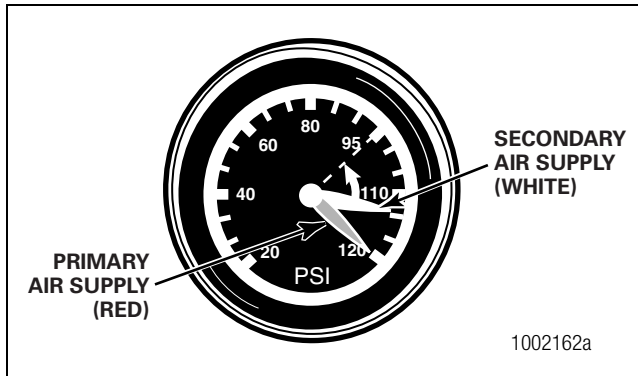

Figure 2.4
3. Check the secondary tank air gauge. It should read 95 ± 5 psi (655 kPa). Figure 2.4.